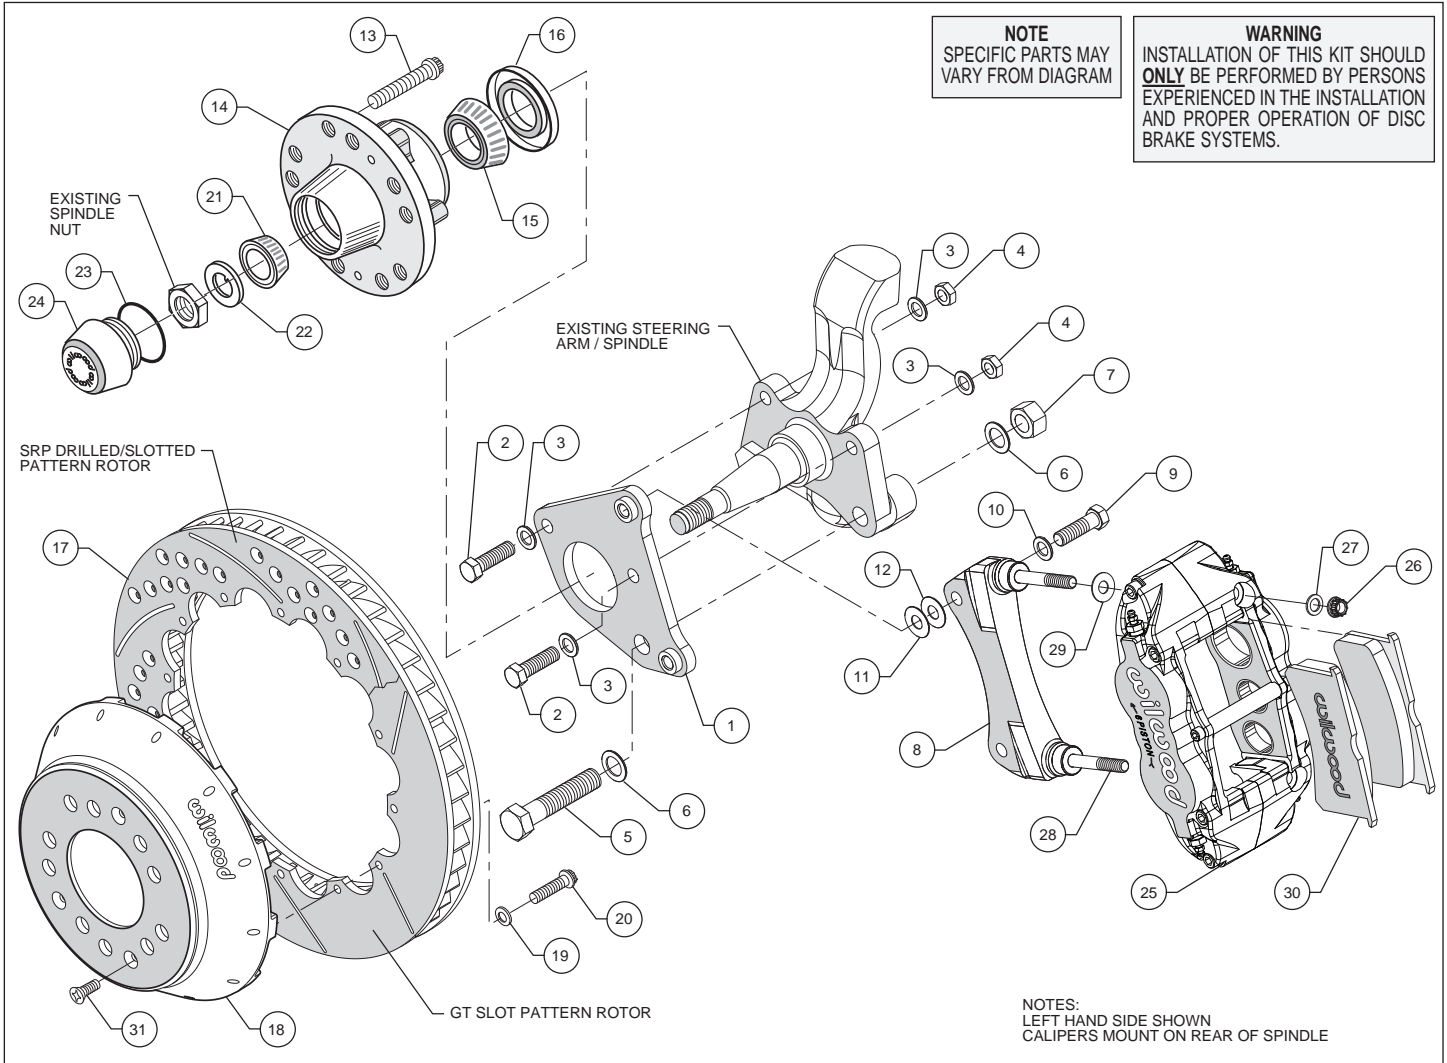
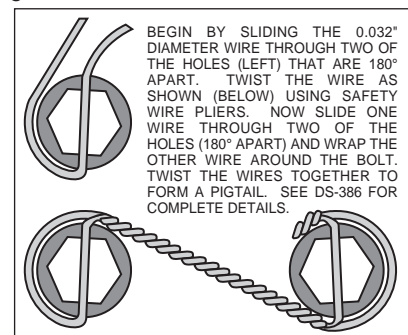

Figure 1. Typical Installation Configuration
Figure 3. Safety Wire Diagram
- Apply red *Loctite*® 271 to bolt threads (2 and 5) before assembly of the flat caliper bracket (1) to backing plate face of spindle. Install bolt (5) and washer (6) through caliper bracket (1), spindle face and the steering arm. Install another washer (6) and lock nut (7) on the rear side. Install two bolts (2) with washer (3) through caliper bracket (1), spindle face and the steering arm. Install another washer (3) and lock nut (4) on the rear side. Torque two bolts (2) to 47 ft-lb. Torque bolt (5) to 140 ft-lb. **NOTE:** Be sure the heads of the caliper bracket (1) insert nuts are facing outward toward the wheel. Reference Figure 1 as necessary.
- The radial caliper mounting bracket assembly (8) should be installed first with clean, dry threads on the mounting bolts. Install the bracket on the inboard side of the flat caliper mounting bracket (1) by sliding bolt (9) through flat washer (10), through the mounting hole in the bracket (8) and into the flat bracket (1) insert nuts. Initially place two shim washers (12) between the two brackets (1 and 8) (see figure 1). The radial bracket (8) must tighten squarely against the inboard side of the flat mounting bracket (1). Later, after the caliper, pad, and rotor alignment has been checked, and any necessary shims have been put in place, the mount bolts should be coated with red *Loctite*® 271 and torqued to 47 ft-lbs.
- Install five new wheel studs (13) into the hub (14). Torque to 77 ft-lb. **NOTE:** There are two five lug patterns in the hub (5 x 4.00 and 5 x 4.50). Make sure of the correct hole pattern for the correct wheel application before installing studs into hub.
- Pack the large inner bearing cone (16) with high temperature disc brake bearing grease (available from your local auto parts store) and install into the backside of the hub (14).
- Install the grease seal (16) by pressing into the backside of the hub (14).
- With the larger I.D. side of the rotor (17) facing away from the hat (18), bolt rotor (17) to hat (18) through the backside of the rotor using washers (19) and bolts (20). Using an alternating sequence, apply red *Loctite*® 271 to the threads and torque bolts to 155 in-lb. For an added measure of security, the bolts may be safety wired using standard 0.032 inch diameter stainless steel safety wire as shown in Figure 3.
- Pack the small outer bearing cone (21) with high temperature disc brake bearing grease. Lightly coat the spindle bearing surfaces with bearing grease. Slide the hub assembly (13, 14, 15 and 16) with outer bearing cone (21) onto the spindle. Secure using spindle washer (22), existing adjusting nut and nut locking device.
- Install the dust cap (24) onto the hub (23). Friction created by the o-ring (23) on the dust cap (24) keeps it from unscrewing. The O.D. of the existing spindle washer may be larger than the I.D. of the dust cap (24) which may allow the washer to contact the dust cap (24). Use the spindle washer (22) supplied with the kit instead of the stock washer.
- **NOTE:** *This kit contains distinct right and left hand calipers that must be mounted in a specific direction, as described below.* Lubricate the caliper mounting studs (28) with lightweight oil. Initially place two .035" thick shims (29) on each stud as shown in Figure 1. Mount the caliper (25) onto the bracket (8) using lock nuts (26) and washers (27), Figure 1. Ensure that the caliper is mounted so that the largest pistons are at the rotor exit end of the caliper, in relation to the direction of rotor rotation. Temporarily tighten the lock nuts and view the rotor through the top opening of the caliper. The rotor should be centered in the caliper. If not, adjust by adding or subtracting shims (11 and/or 12) between the radial bracket and the spindle bracket. Always use the same amount of shims on each of the two mounting bolts.
- Remove the caliper center bridge pad retainer bolt, nut, and tube from the caliper. Slide the brake pads (30) into place. They should install easily without interference. Check that the outside radius of the brake pad is flush with the outside diameter of the rotor face. Add or subtract shims (29) between the caliper and radial mounting bracket to gain the proper alignment. Reinstall the center bridge pad retainer tube, bolt, and locknut. The locknut should be snug without play in the bolt or tube. Be cautious not to over tighten.
- Once all clearances have been checked, remove the wheel, caliper, hat, and rotor from the spindle and hub. Secure the radial caliper mounting bracket (8) to the flat caliper mounting bracket (1) using red *Loctite*® 271. Torque the bolts to 47 ft-lbs. Reinstall the hat and rotor assembly and again use several lug nuts to hold it in place. Reinstall the caliper, torque the caliper nuts (26) to 30 ft-lbs.
- Install three flat head socket screws (31) through the small holes in the hat (18) and torque to 85 **in-lb**.